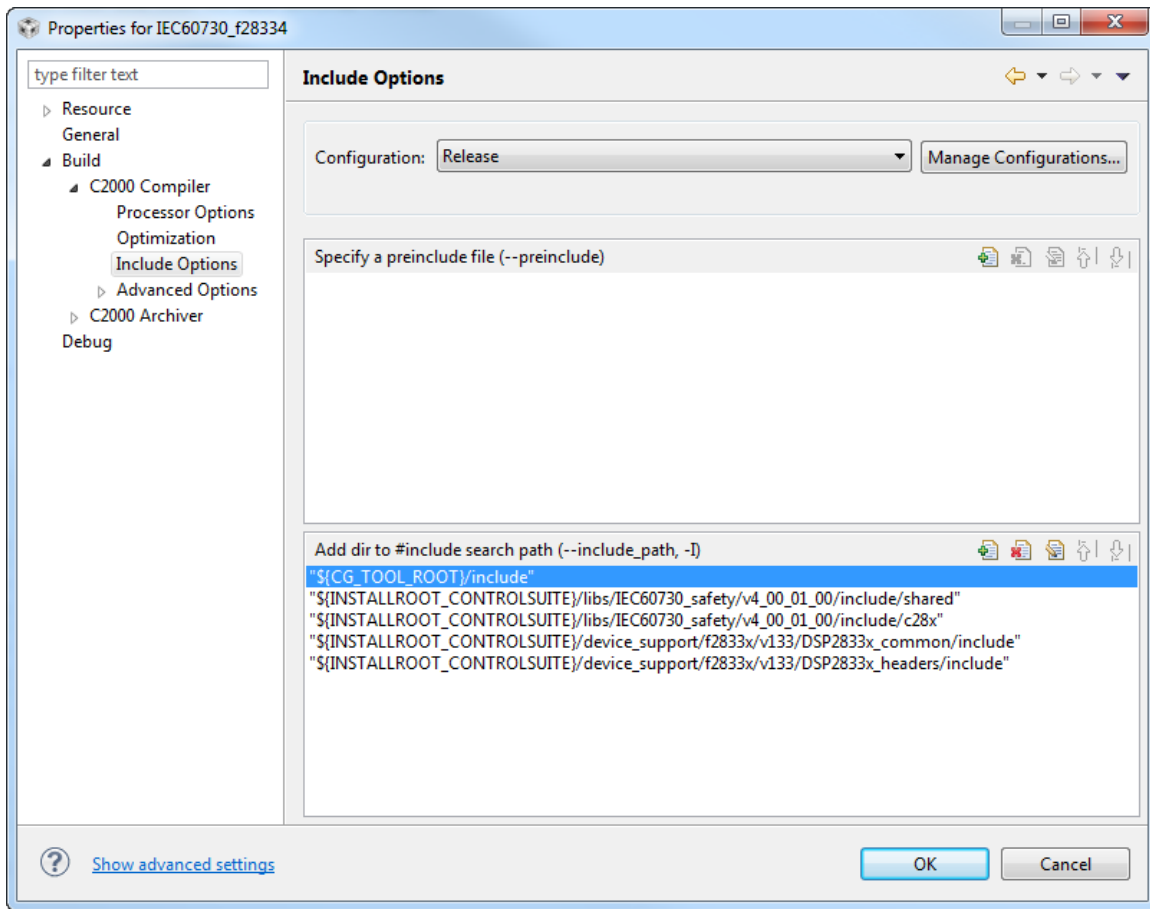

Figure G.2: Adding Header File Directory
7. Add the search path to the version header files required by the source files. Click on **Projects** menu > click on **Properties** > expand to **Build** > **C2000 Compiler** > **Include Options**. Add the following in the **Add dir to #include search path** window. See figure G.2. For example for this library build v133 of the header files and v4_00_01_00 of the safety library was used.